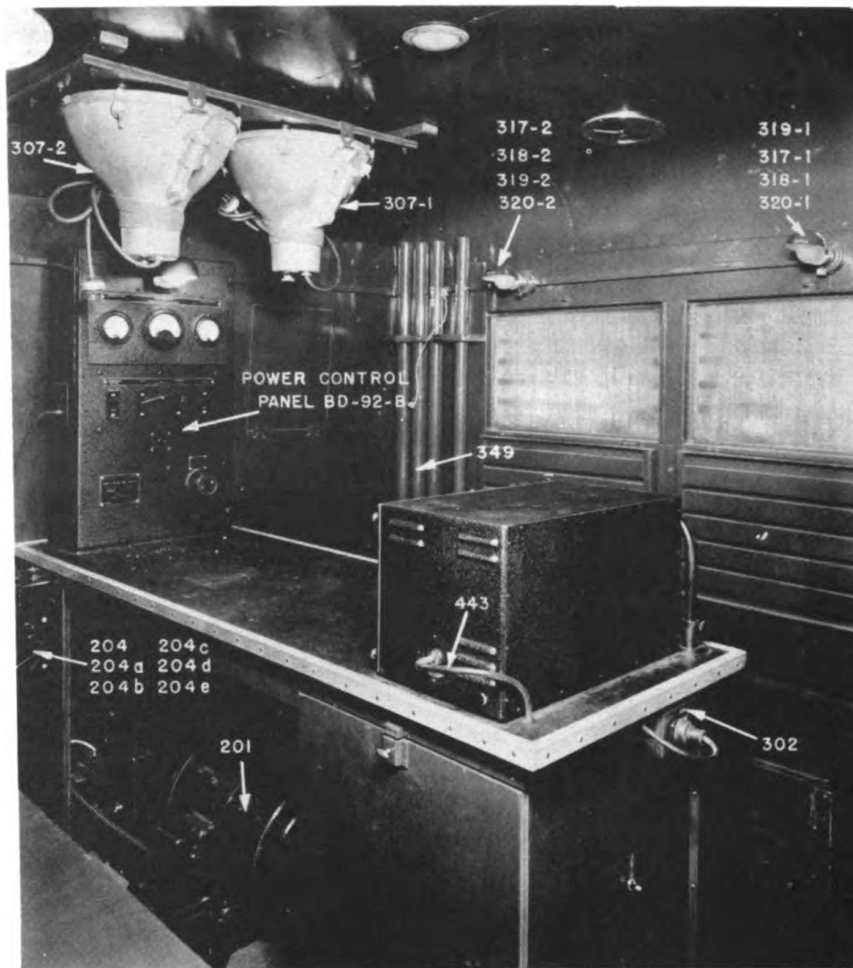

FIG. 8 INSTALLATION IN TRUCK, VIEW LOOKING TOWARDS REAR
(2) Floodlights are provided which operate from mounting brackets on the two rear upper corners of the truck. Power cords from the lights are plugged into capped outlets that are located near the bracket mountings. The floodlights are controlled by a toggle switch on the front panel of the Power Control Panel BD-92-B, and when not in use, are mounted from a rack on the ceiling of the truck as shown in Fig 8.